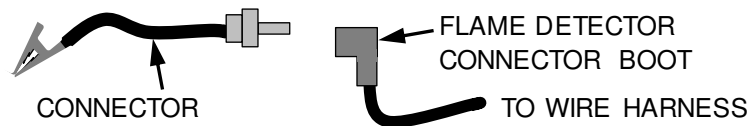

Figure 5-8: Connecting the Flame Signal Generator
- b) When the Controller gets into the ignition phase, it will show **Ignition Trial**. Attach the alligator clip (Figure 5-8) to a bare metal surface or ground. The Controller displays **Flame Proven** and begins to ramp up to 100% fire rate. No gas or flame is present in the boiler at this time.